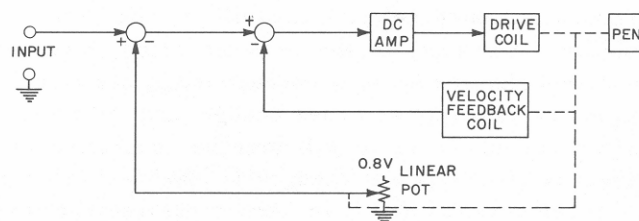

Figure 4.2. Block diagram of servo loop for dc recording.
**4.7 DC RECORDING.** Use of the linear potentiometer converts the Type 1521-B into a dc recorder. Figure 4.2 is a block diagram of the recorder servo loop for dc recording. The ac amplifier is bypassed and the input is compared with a dc voltage tapped off a linear potentiometer. The voltage on this potentiometer limits the full-scale sensitivity to 0.8 volt. The input impedance is limited to 1 kilohm owing to the base current of the input transistors. This current changes with temperature, but the change contributes negligible error with a 1000-ohm input impedance. The impedance can be increased if the effects of the current are included in the zero adjustment of the recorder. The input impedance can also be lowered, reducing sensitivity and drift. The low impedance may be more useful for recording current.